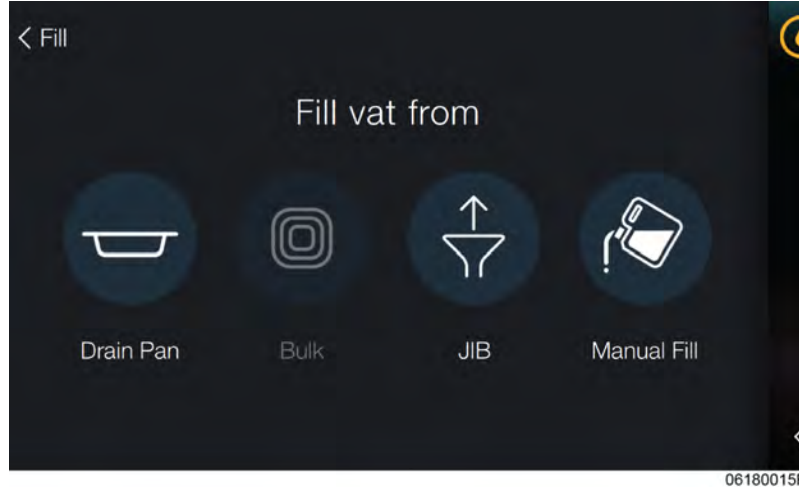

Figure 5-7 Fill Vat
- **Cart** - Tap **Cart** then remove the empty drain pan. Open the lid on the ODS (available separately) and insert it under the fryer ensuring that the drain spout aligns with the opening on the ODS. Tap **Ready** once installed. Once oil has finished draining, tap **Complete**. Roll the ODS out from under the fryer. Close and latch the lid to transport. Select from **Drain Pan**, **Bulk**, or **Manual Fill** to refill the vat, see Figure 5-7 Fill Vat, page 41 for an understanding of fill indicators. Select **Done** when finished.
The Fill Vat option provides four options to fill the vat with oil, see Figure 5-7 Fill Vat, page 41. Tap the desired fill method icon and follow the prompts to fill the vat with oil. The four fill options are as follows:
- **JIB** - Tap **JIB** then tap and hold **Fill** to fill the vat from the JIB, see Figure 5-7 Fill Vat, page 41 for an understanding of fill indicators. Select **Done** when finished. **INFO:** To save time, use the **Manual Fill** option to fill an empty vat with oil rather than the slower option to fill the entire vat from the JIB.
- **Manual Fill** - Manually pour oil from a JIB into the vat. Tap **Done** when filled, see Figure 5-7 Fill Vat, page 41 for an understanding of fill indicators.